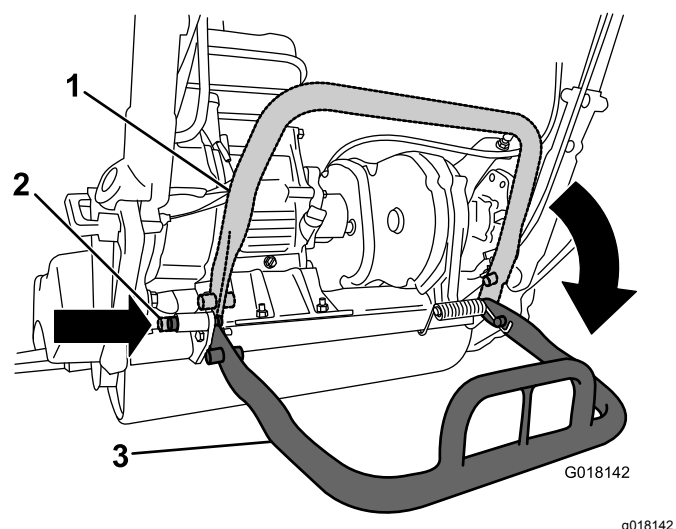

Figure 5
2. Lower the kickstand and push in the locking pin to lock the kickstand in the SERVICE position (Figure 5). Allow the machine to rest on the locked kickstand.